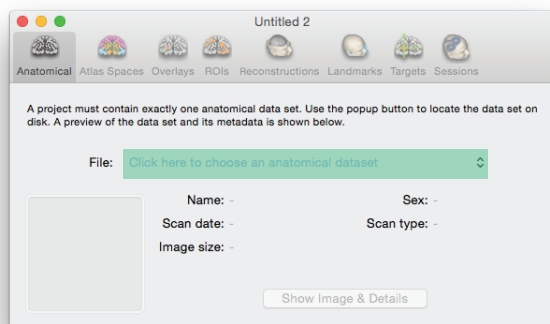

Fig. 5-2
- Click the file chooser (the section highlighted in green in Fig. 5-2) and select "**Choose...**", from the popup button. A file selector dialog will appear. Note that you do not need to identify the file format as Brainsight will figure this out automatically. Do the following for each supported file format: